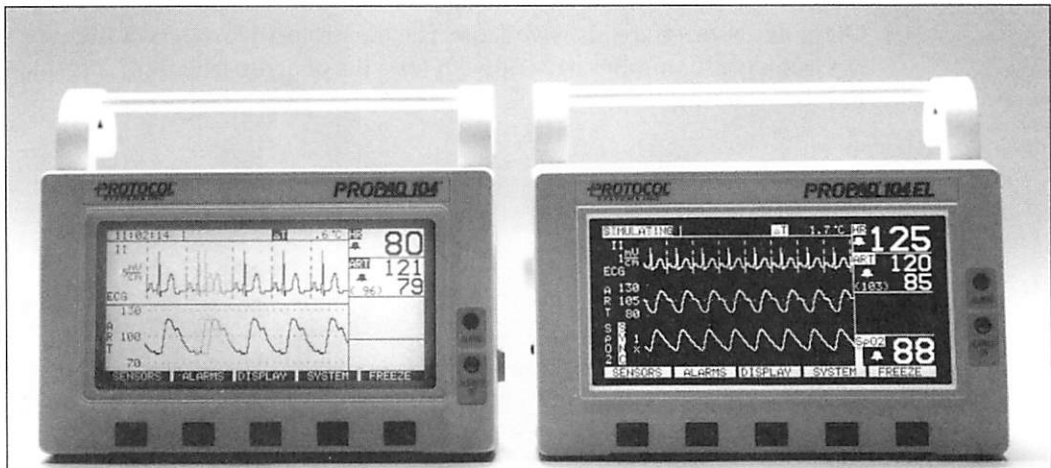

Figure 1-1. Propaqs with LCD and EL displays
The Propaq Electroluminescent (EL) Display is excellent for bedside applications where viewing the Propaq display from a longer distance is required. See Figure 1-1. The EL display increases both the contrast and viewing angle of the monitor. The Liquid Crystal Display (LCD) Propaq operates longer on a battery charge, provides excellent viewing at close distances, and is more visible than the EL display model in direct sunlight.